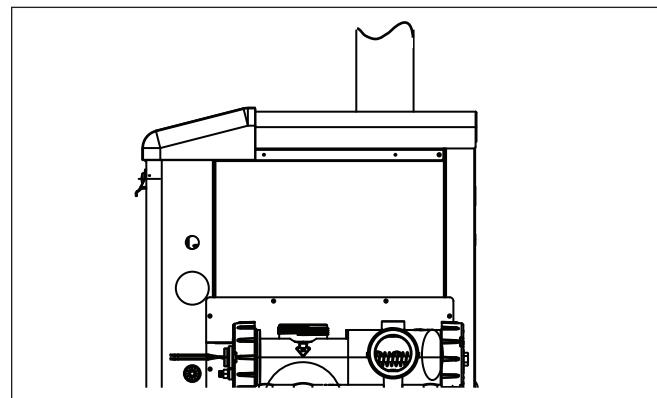

Figure 6. Vent Pipe Installation
2. Install the vent pipe on the indoor vent collar. The collar will accommodate vent piping of nominal 6", 7" or 8" diameter (see Table 4), depending upon the model of your heater. (See Figure 6.) See vent installation section for important information on selecting proper pipe size.